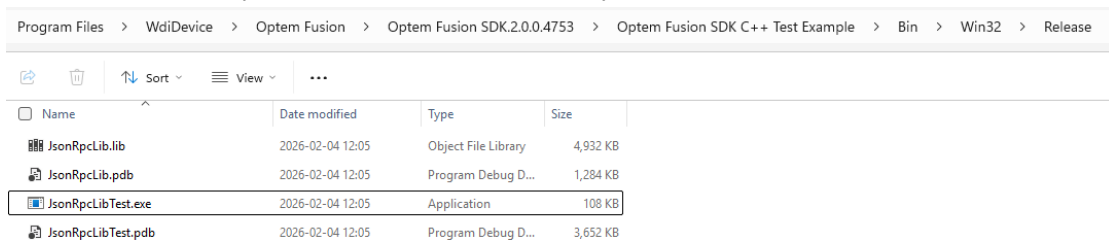

Figure 51 C++ Test Example Executable File Folders
1. Locate the executable file from the following folder (see Figure 51):